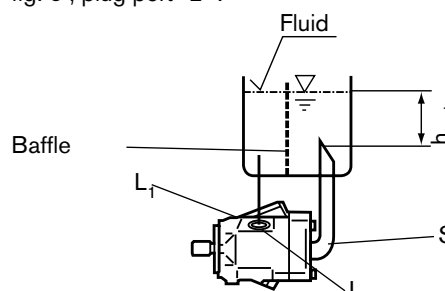

Fig. 5
b) Mounting below the tank: pipe ports "L₁" and "S" acc. to fig. 5, plug port "L".